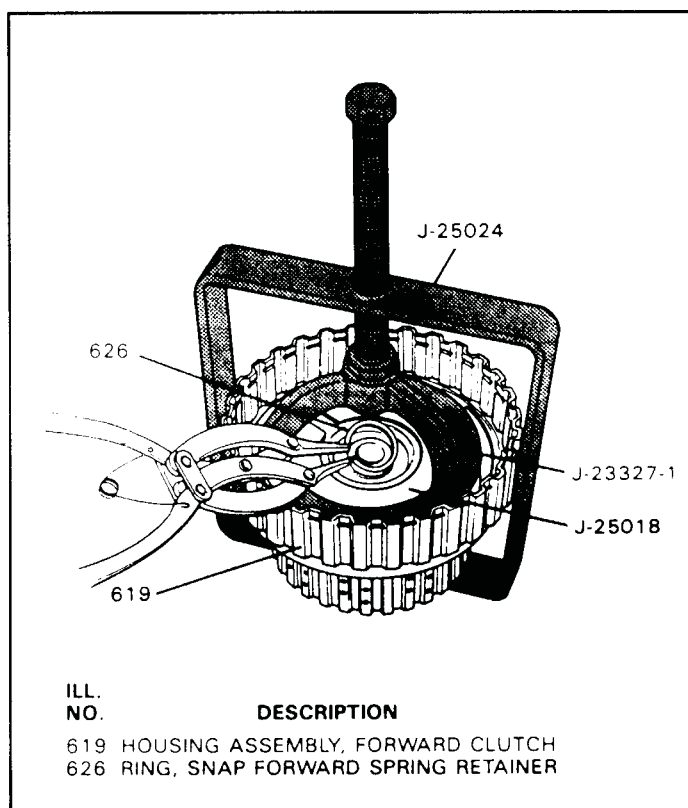

Figure 86
7. Compress the return spring assembly using a suitable spring compressor as shown in Figure 86.
8. Install the snap ring, as shown in Figure 86, and remove the spring compressor.